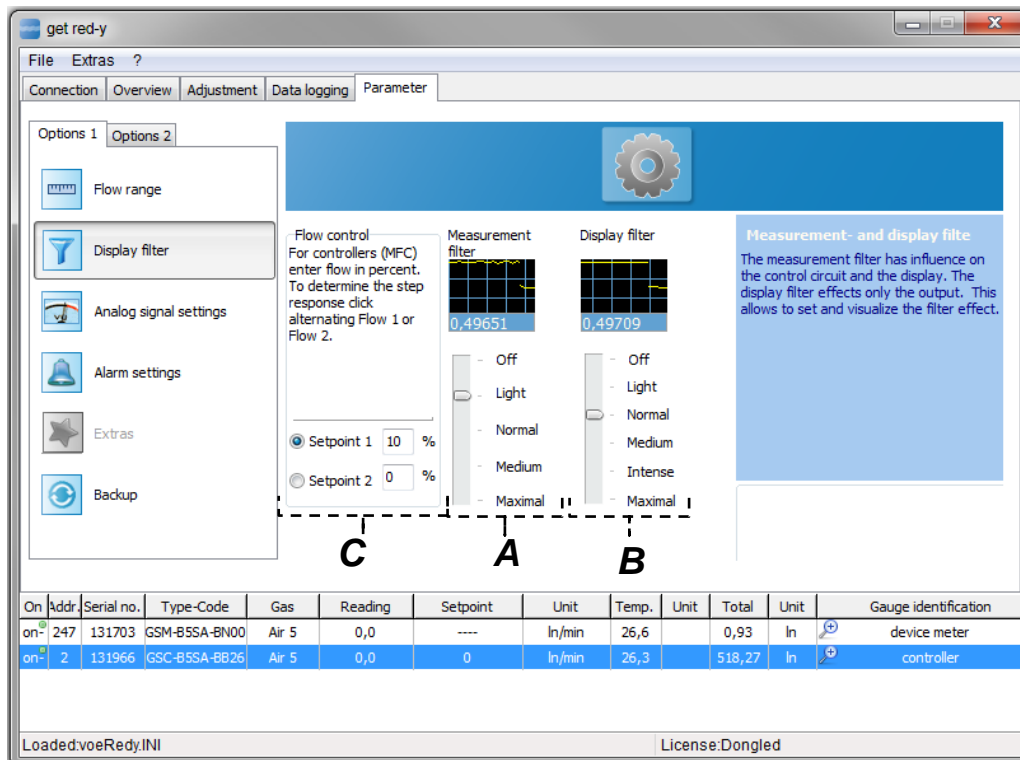

Figure 25: The Display filter page for setting the measurement value and display filters
- C. Flow control:** Changes to the measurement value filter have a direct effect on the control behavior. With the step response you can analyze how a change in the measurement value filter effects the control circuit. To do this enter the percentage values in the input boxes at Set point 1 or Set point 2 in Figure 25. (In % of the end value) After entering the set point presettings, you can change between Set point 1 and 2.